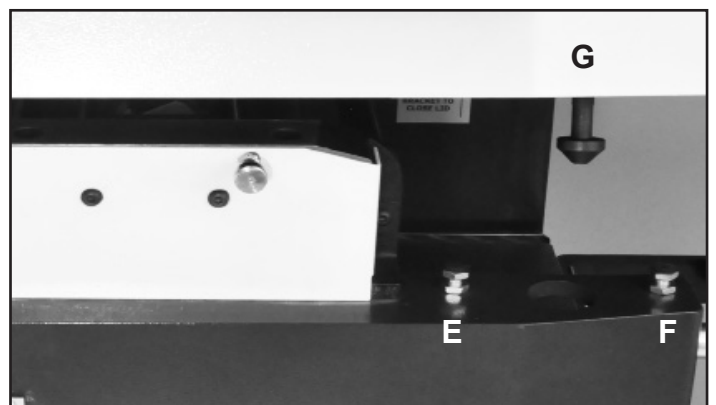

FIG. 23
4. The table can also be tilted forward or back with the two Special Bolts (#18, FIG. 23, E & F). The combination of the six bolts and screws (A-F) provide a great range of table positioning to level it with the infeed table.
6. With the table lowered, make sure the two safety Table Locks (#104, G) will engage. These special bolts can be adjusted up or down by their threaded ends, then secured with their attached Nuts (#106). FIG. 23.